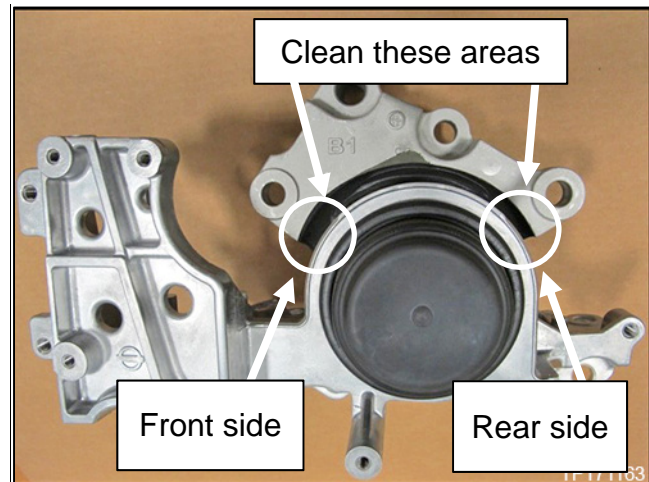

Figure 15
26. Clean the front and rear inspection areas shown in Figure 15 with mild soap and water.
**NOTE:** Engine mounting insulator (LH) has been removed for clarification.